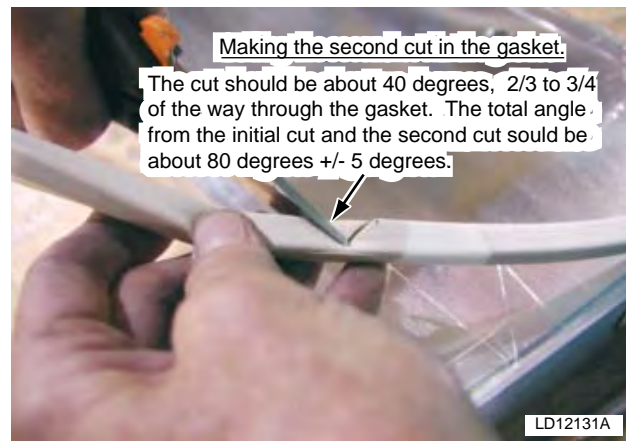

FIG. 5-30 – MAKING SECOND CUT ON GASKET
- The second cut is about 2/3 to 3/4 of the way through the gasket. The cut should be about 40 degrees. The total angle from the initial and second cut should be about 80 degrees +/- 5 degrees (see Fig. 5-30).